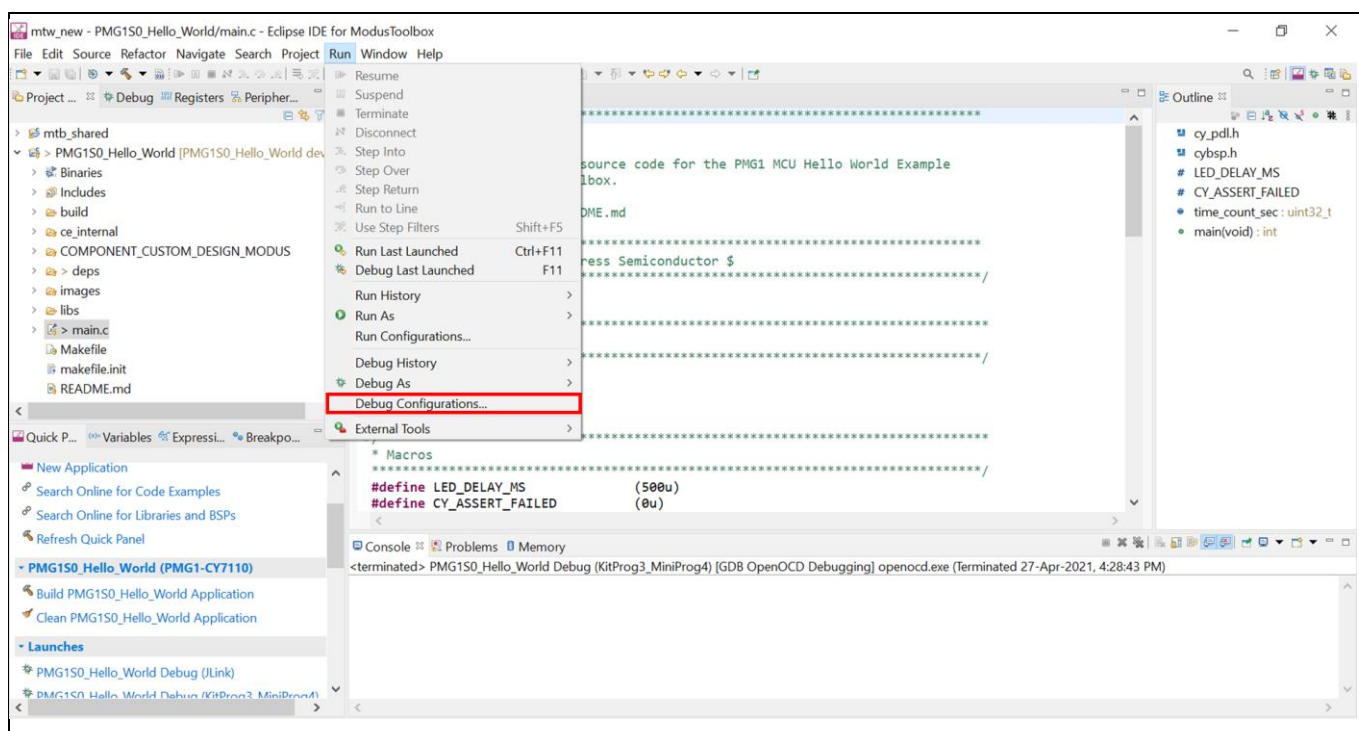

Figure 43 Selecting debug configurations from the Run menu
7. Select **Run > Debug configurations**, as shown in Figure 43.